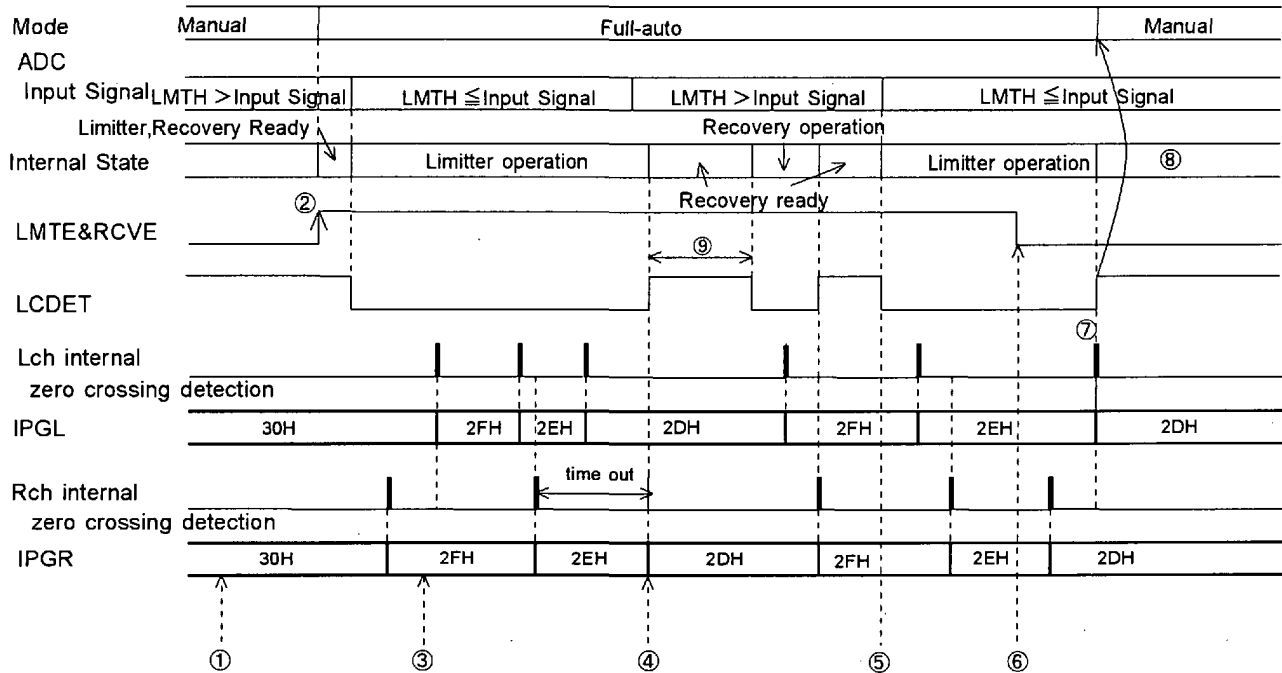

Figure 9 . Control example of full-auto mode operation (LMAT=RATT: 1 step, ZENM=ZELM="1")
- ② WR(LMTE=RCVE="1"): After the registers concerned in the auto limiter operation is set up and confirming the zero crossing flags(ZFIPL, ZFIPR)="1", LMTH and RCVE are set "1".
- ③ WR(IPGA="31H"):As the operation is full-auto mode, writing by uP is ignored.
- ④ The ready of recovery starts.
- ⑤ As the input signal of ADC exceeds LMTH, the recovery operation (in the figure, recovery ready) is discontinued and the limiter operation starts.
- ⑥ WR(LMTE=RCVE="0"):The full-auto mode operation is completed.
- ⑦ In Figure 9 , since "0" is written to LMTE & RCVE during the ATT operation, the operation changes to the manual mode after completing ATT operation. After confirming LCDET="1", it is possible to change the each register set-up. If LMTE&RCVE are set "0" during the full-auto mode operation, LCDET becomes "1" after the max "1" ATT/GAIN operation is completed by internal state.
- ⑧ In this case, the input signal of ADC exceeds LMTH, the auto limiter does not operate because of LMTE=RCVE="0".
- ⑨ After the limiter operation is completed, the AK4516A waits for the time set by WTM1-0. If the input signal does not exceed (LMTH - 2dB), the recovery operation is executed. After the waiting time finishes the next waiting time starts immediately. In recovery ready, the waiting timer is reset under the condition of (LMTH - 2dB) ≤ Input Signal < LMTH. And the timer starts under the condition of (LMTH - 2dB) > Input Signal.